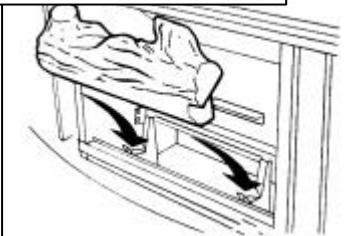

Fig. 15 Front Log Location
10.2.2 Place the front log on the retaining cradles between the rear and front burner tubes (Fig.15). Centre the log so that the gap to the firebox walls is the same at each side.